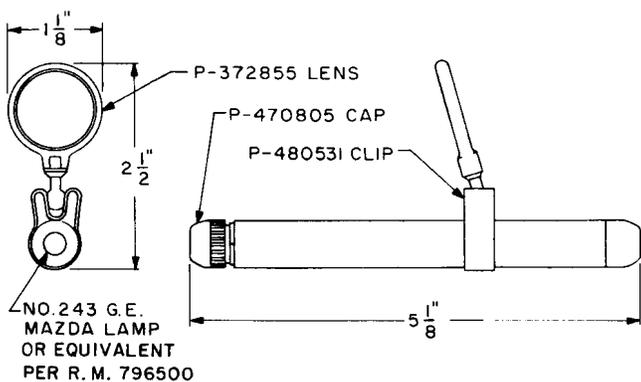

Fig. 2—510C Portable Lamp Tool
2.02 510C: The 510C portable lamp tool (Fig. 2) is used in examination of small areas such as relay stud gaps. This tool is used with the 561A straight tip or the 562A or 562B offset tip. This tool, with the 521A tool (straight tip) replaces the 510B tool. This portable lamp tool requires a W2BL cord (48V) or W2CB cord (24V) for use with this tool.